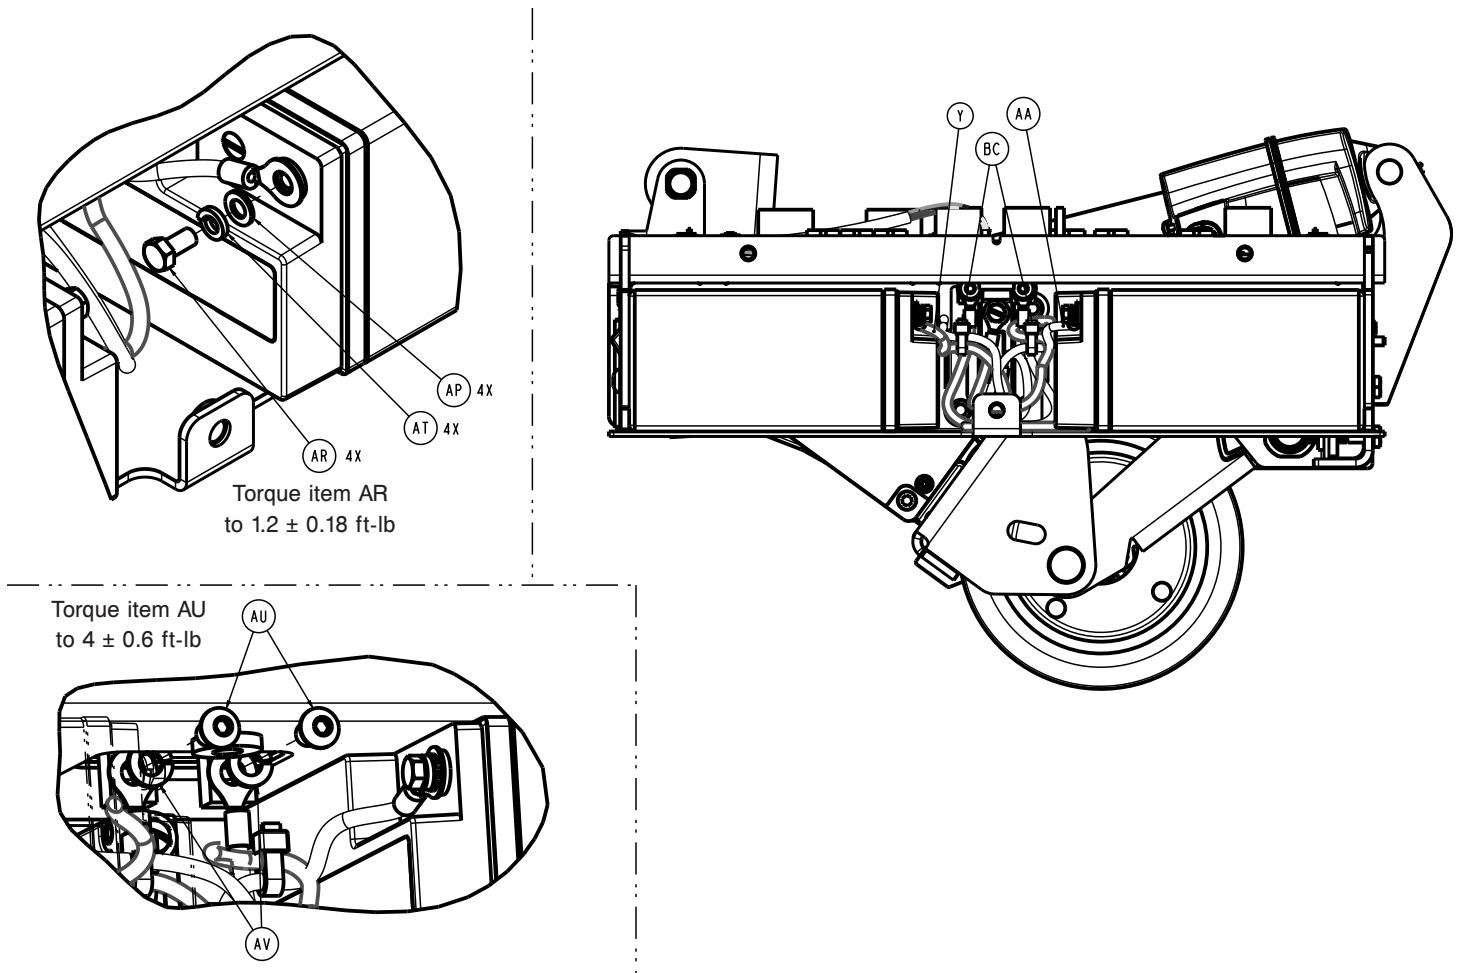

Figure 68 – Removing the batteries
11. Using a 5/16" socket and ratchet, remove the bolt (AR), lock washer (AT), and flat washer (AP) that secure the positive wire (red) and the negative wire (black) to the battery (Figure 68). Save the bolt and washers. Repeat for the other battery.
17. Using a 5/32" hex wrench, remove the two screws (AU) and lock washers (AV) from the battery wires to remove the board (Figure 68).